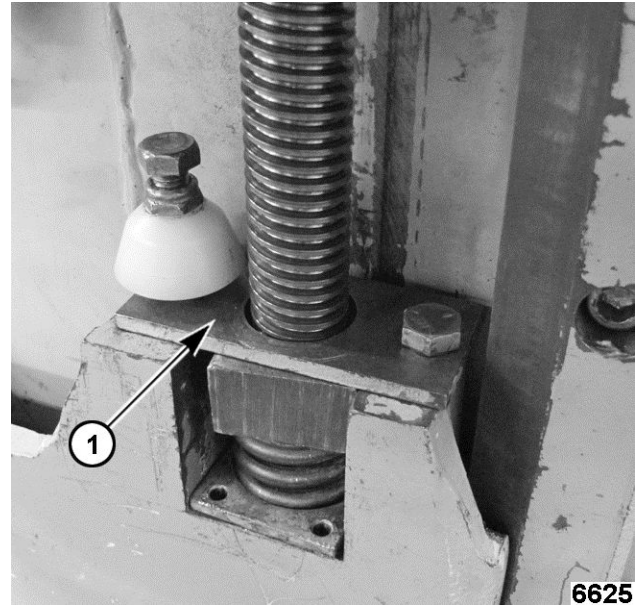

Fig. 123
4. Remove the bowl lift nut retainer (1, Fig. 123) from the bowl support and run the nut up the lift screw.